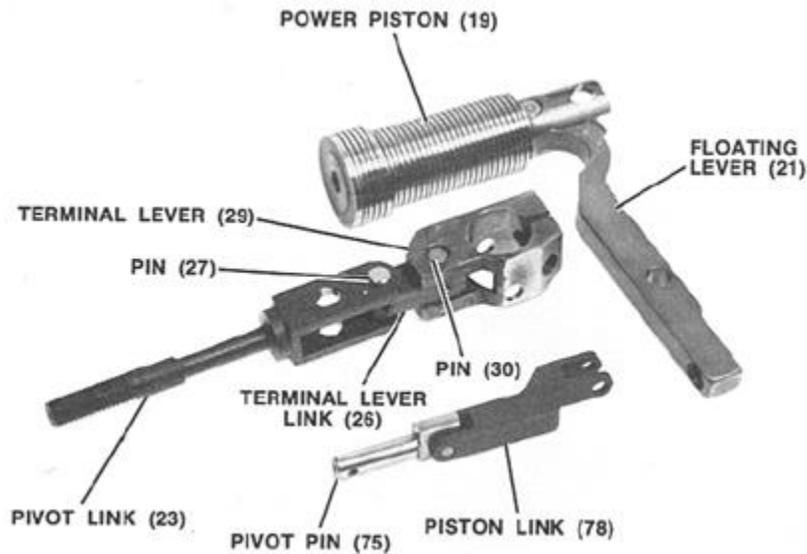

Figure 5-15. Parts Layout, Pistons and Levers
12. See Figure 5-15.
- A. Assemble power piston (19) and floating lever (21) with pin (20) and snap ring (22).
- B. Assemble pivot link (23) and terminal lever link with pin (27), and fasten together with roll pin (28).
- C. Assemble terminal lever (29) to terminal lever link (26) with pin (30).
- D. Assemble pivot pin (75) to (78) with straight pin (77).